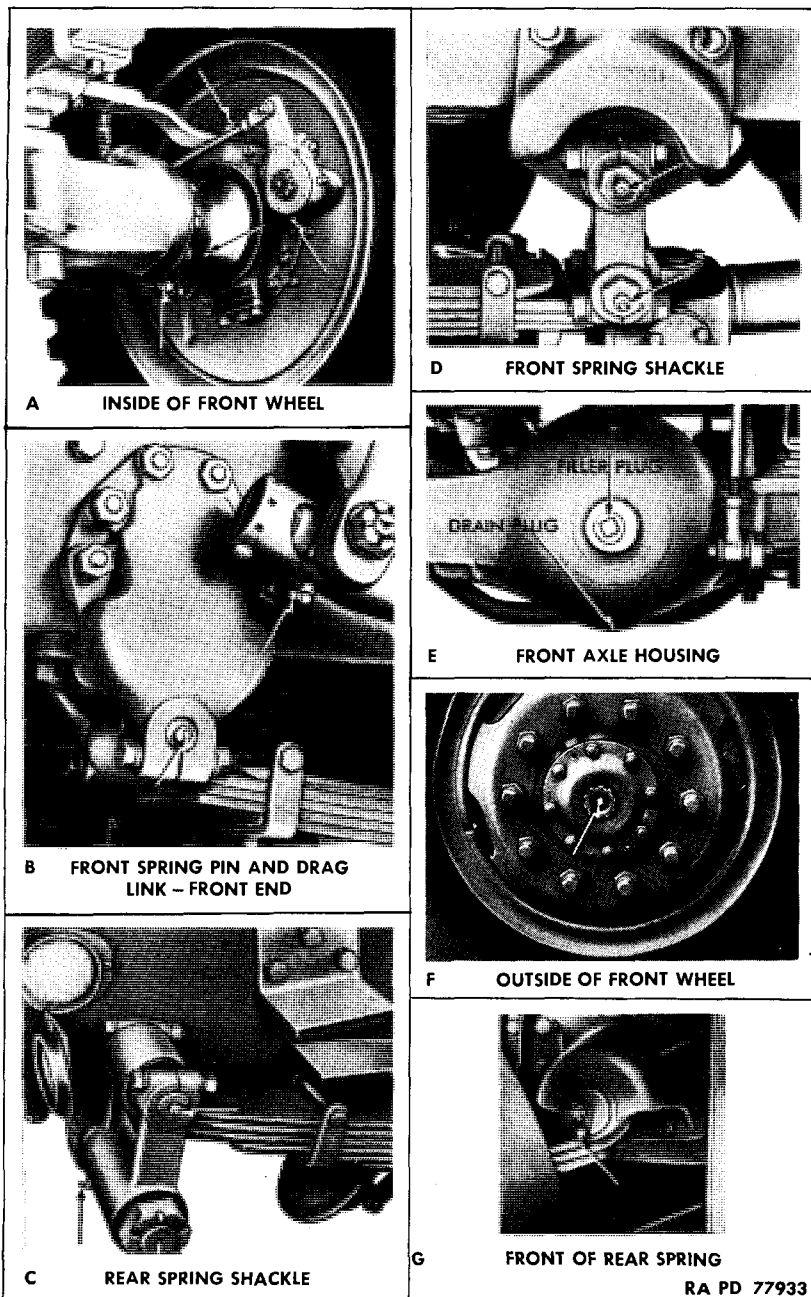
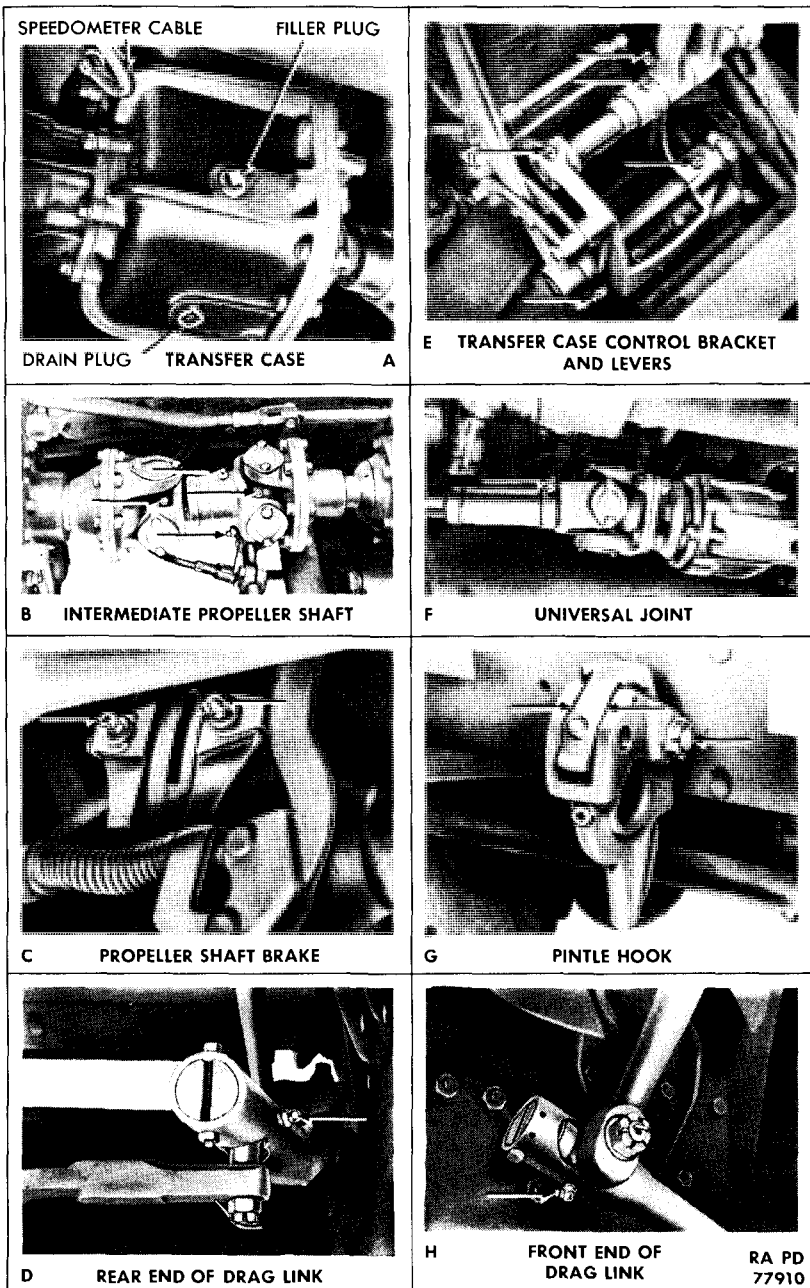

Figure 8 — Wheels, Axles, and Springs — Lubrication Points
Figure 9 – Miscellaneous Lubrication Points
B fig. 8. Spring Bolt CG
H fig. 9. Drag Link CG
A fig. 8. Steering Gear Housing GO
A fig. 8. Slack Adjuster CG
D fig. 9. Brake Camshaft CG
A fig. 8. Drag Link CG
F fig. 8. Steering Knuckle Upper Brg. CG
A fig. 8. Front Wheel Bearings WB 6
A fig. 8. Universal Joint and Lower Steering Knuckle Brg. (Note 4) CG
A fig. 8. Brake Anchor Pins CG
A fig. 8. Tie Rod CG
(7) **GEAR CASES (A and F, fig. 7; E, fig. 8; A, fig. 9).** Weekly, check level with truck on level ground and, if necessary, add lubricant to within 1/2 inch of plug level when cold, or to plug level when hot. Drain and refill at intervals indicated on guide. Drain only after operation. Keep housing vents clean. Transmission has "SUMMER" and "WINTER" level markings at filler plug.
(8) **UNIVERSAL JOINTS (FRONT WHEELS) (A, fig. 8).** With truck on level ground, remove plug on under side of joint; also remove plug in wheel hub and install fitting. Fill through fitting to level of plug hole. Remove fitting and reinstall plug.
(9) **UNIVERSAL AND SLIP JOINTS (B and F, fig. 9).** Apply **GREASE**, general purpose, No. 1 above +32°F. and No. 0 below +32°F. to universal joint until it overflows at relief valve, and to slip joint until lubricant is forced from vent at universal joint end of spline.
(14) **OILCAN POINTS (G, fig. 9).** Every 1,000 miles, lubricate throttle and spark control rod ends, clevises, hinges, latches, air compressor rocker arm shaft, pintle hook, and hand brake linkage with **OIL**, engine, SAE 30 above +32°F. or SAE 10 +32°F. to 0°F. Below 0°F., use **OIL**, lubricating, preservative, special.